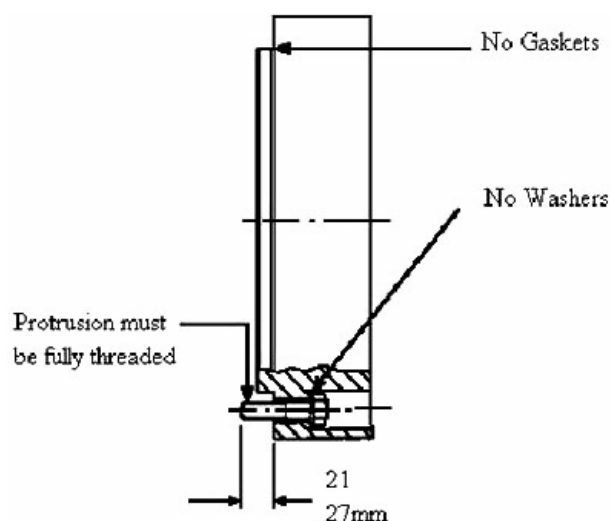

Figure 33.1: Screw Protrusion on Revised Distance Piece (Aluminium)
33.1 For a distance piece (11) to Drawing B1-A0-9001022 (deep counter-bore: revised design) in aluminium, trial fit an M10 x 40mm Hex socket head screw (Cat No. 035/106097). Check that the screw protrudes between 21 and 27mm from each hole (see Figure 33.1). If this protrusion is not achieved report findings to Engineer.